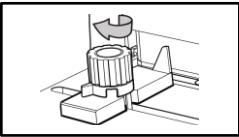

Figure 3
- C. **EDGE GUIDE:** Used to align the paper for proper punching. Unlock the edge guide by turning the knob counterclockwise, slide the edge guide to the proper position based on your paper size and lock it again by turning the knob clockwise. (Figure 3)